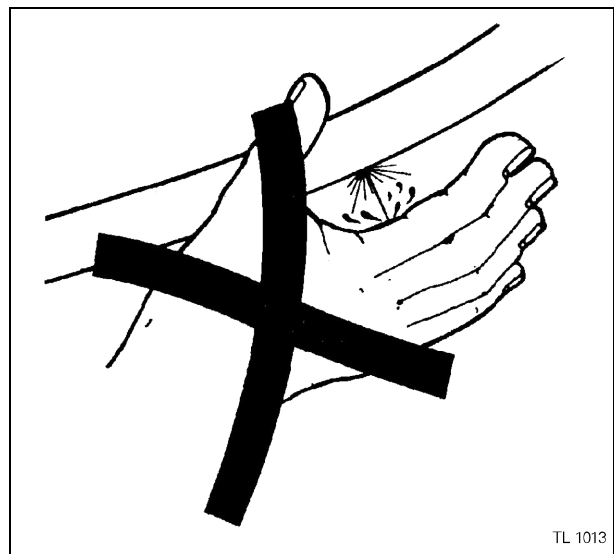

Fig. 11
**WARNING:** Diesel fuel or hydraulic fluid under pressure can penetrate the skin or eyes and cause serious personal injury, blindness or death. Fluid leaks, under pressure, may not be visible. Use a piece of cardboard or wood to find leaks. DO NOT use your bare hand. Wear safety goggles for eye protection. If any fluid is injected into the skin, it MUST be surgically removed within a few hours by a doctor familiar with this type of injury (see Fig. 11).